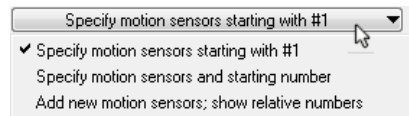

Figure 6. Options for creating new sensors.
- ① Drop-down list used to specify one of three options for creating new sensors (Figure 6):